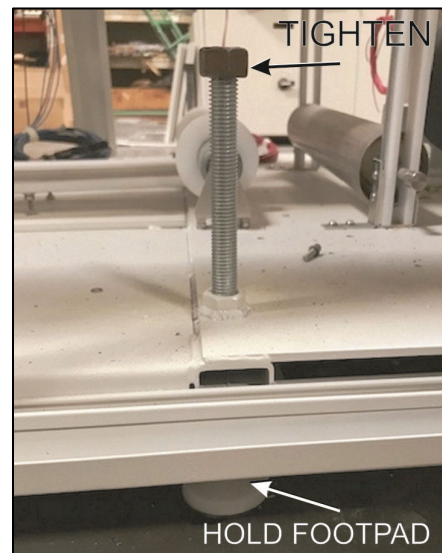

Figure 2-10 Tighten Footpad
Once the machine has been moved onto a smooth flat floor the furnace can usually be moved on its wheels. Raise the furnace feet above the elevation of the wheels using an open-end wrench on the screw flats (Figure 2-10). Carefully manually push the furnace to the desired location.
- After footpads are installed, starting with the four corner studs, turn each stud clockwise until foot touches floor on all four corners, Figure 2-10.